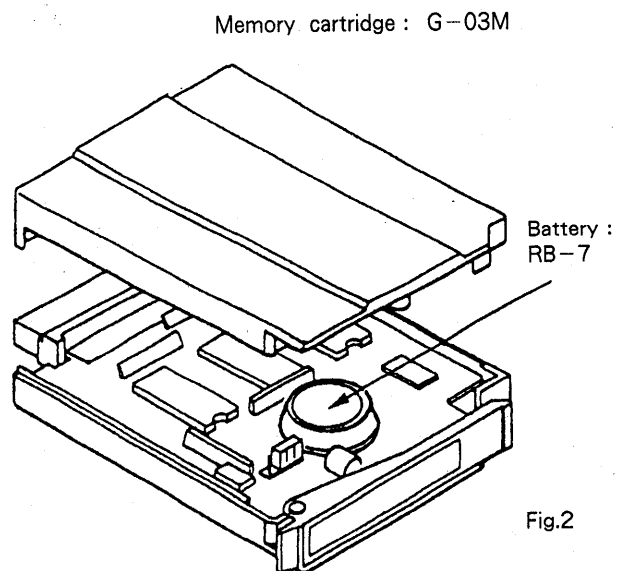

Fig.2
② Remove the battery from the holder (fig.2).